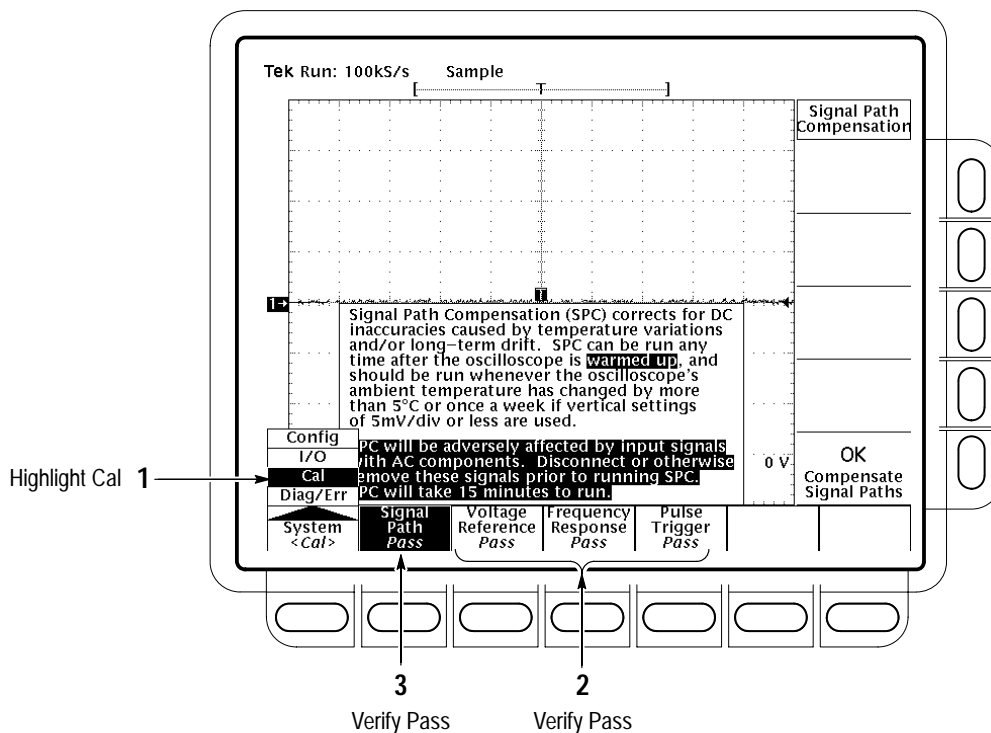

Figure 1–2: Verifying Adjustments and Signal-Path Compensation
- Highlight **Cal** in the pop-up menu by repeatedly pressing the main-menu button **System**. See Figure 1–2.
- Verify that the word **Pass** appears in the main menu under the following menu labels: **Voltage Reference**, **Frequency Response**, and **Pulse Trigger**. See Figure 1–2.
- h. *Confirm signal-path compensation returns passed status:* Verify that the word **Pass** appears under **Signal Path** in the main menu. See Figure 1–2.
- a. Hook up the signal source:** Install the probe on **CH 1**. Connect the probe tip to **PROBE COMPENSATION SIGNAL** on the front panel; connect the probe ground (typically black) to **PROBE COMPENSATION GND**. If using a P6243 or P6245 probe, you may want to attach a Y-lead connector and two SMD KlipChips as shown in Figure 1–3.